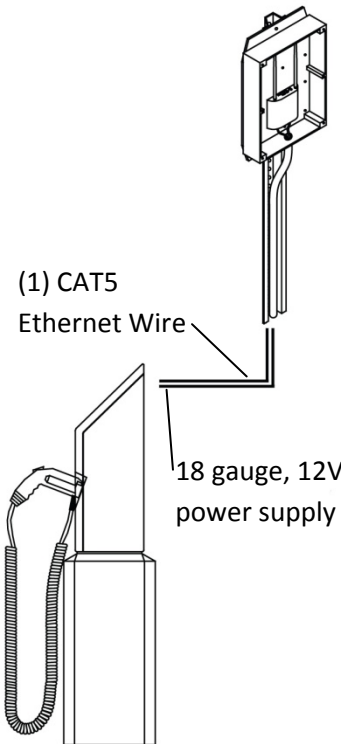

Figure 2
1. Run the $\frac{3}{4}$ " PVC conduit underground from the PEP Station base to the sign location as shown in *Figure 2* at a depth compliant with local codes. The CAT5 Ethernet wire and 18 gauge power supply wires will run in the same $\frac{3}{4}$ " conduit.